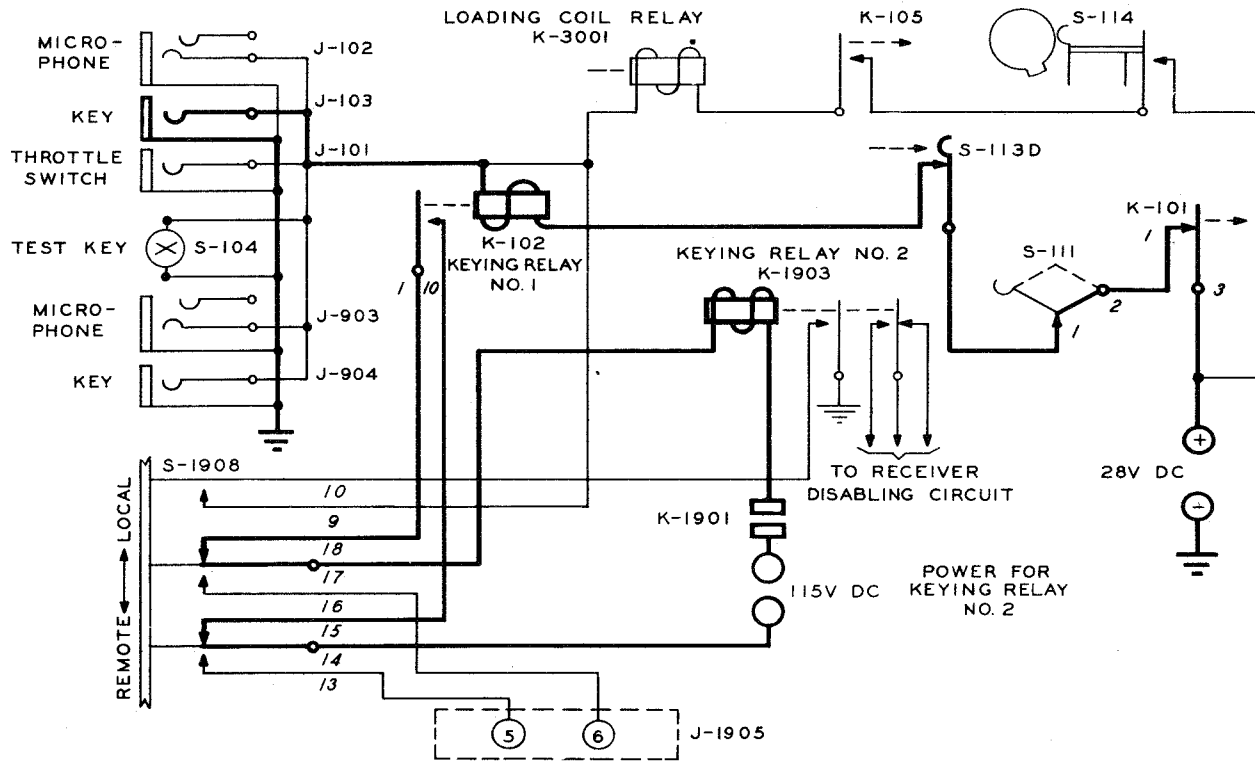

Figure 4-7 Local Keying Circuits
a. LOCAL KEYING CIRCUITS. (See figure 4-7) - For local keying the LOCAL-REMOTE switch S-1908 must be in the LOCAL position and a telegraph key must be connected to J-103 in the transmitter unit. Closing the circuit through KEY jack J-103 completes the circuit through the coil of keying relay K-102, interlock switch S-113D, Autotune limit switch S-111, and Autotune motor control switch K-101 to energize keying relay K-102. While keying relay K-1903 in the power unit is concerned mostly with remote keying, the receiver disabling contacts are located on this relay and must be operated at all times; therefore, K-1903 is operated by a circuit from the 115 v DC supply through contact numbers 14 and 15 on LOCAL-REMOTE switch S-1908, contacts 1 and 10 on keying relay K-102 back through contact numbers 17 and 18 on LOCAL-REMOTE switch S-1908, through the coil of keying relay K-1903 through a set of contacts on the master start relay K-1901 and to the 115 v DC supply.